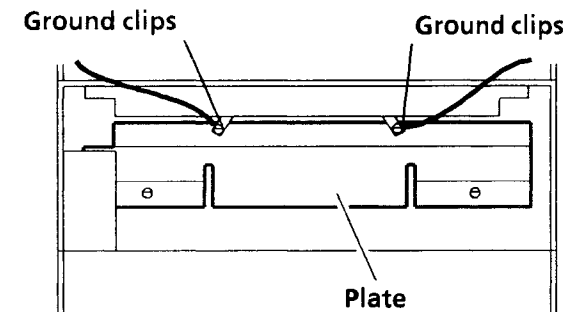

Figure 2. Grounding clips
9. Loosen the grounding clips covering the ADF roller assembly (Figure 2).